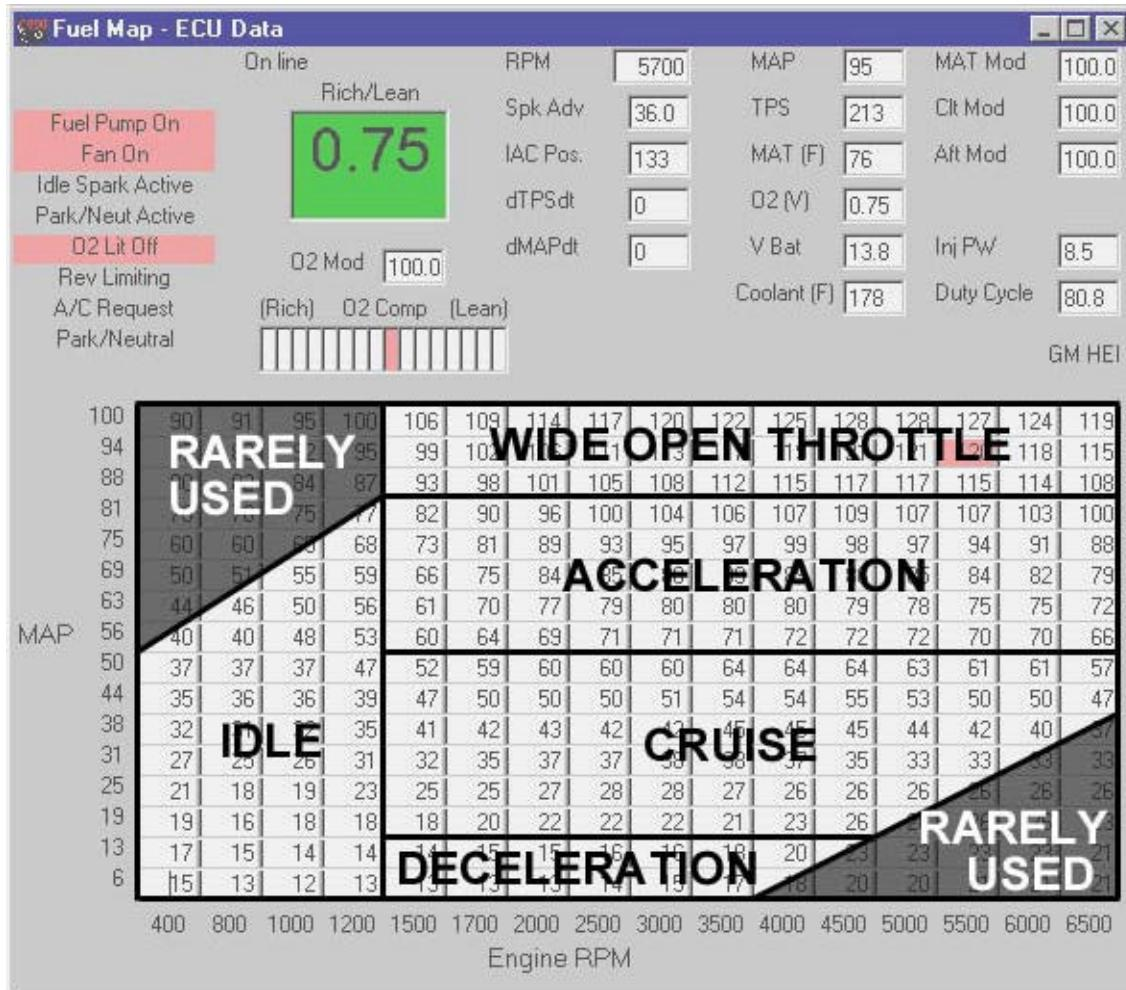

Figure 11 Example of Fuel Map with Graphical Representation
Go to "Fuel" and "Main Fuel Map". This brings up the main fuel map. The fuel map has 16 columns and rows. The bottom indicates the engine rpm scale. The left column indicates manifold vacuum (or pressure). The bottom of the map indicates high vacuum conditions. The top of the map indicates low vacuum that occurs at wide-open throttle conditions. See Figure 11.
3. **Spark Advance** - The next area that can be reviewed is the spark advance map. The base spark maps provided should provide a good performing baseline but are conservatively low for some applications and may need less for others. Optimizing timing is very important for best idle, peak safe power, and best driveability. Most people do not understand the benefits of having computer-controlled timing. With mechanical advance you are limited to the advance curve of the distributor. You can not change the initial advance without changing the total (unless the distributor is modified). With a timing map, you can put any advance at any engine load and RPM point. If you are familiar with the timing your engine will probably like, change the table now. If you are not, as are most people, then make small changes to each area that you are working on. The spark map follows the same graphical areas as the fuel map (**Figure 11**).